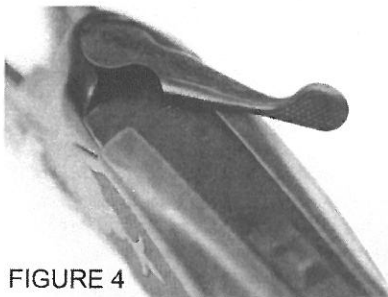

FIGURE 4
- Before opening the action of the shotgun, make sure that the gun is pointed in a safe direction. With one hand, move the top lever to the right as far as it will go (see FIGURE 4) (don't use excessive force, the lever should move